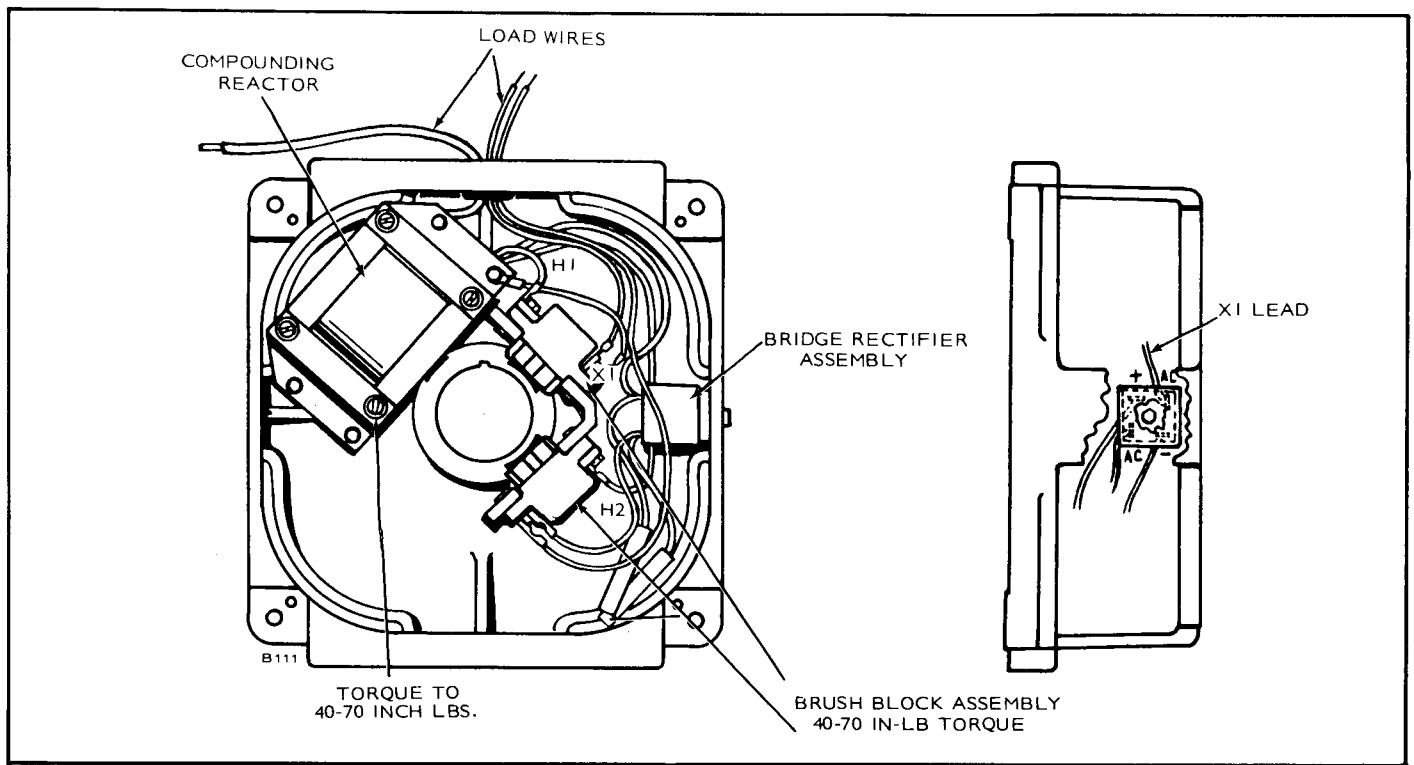
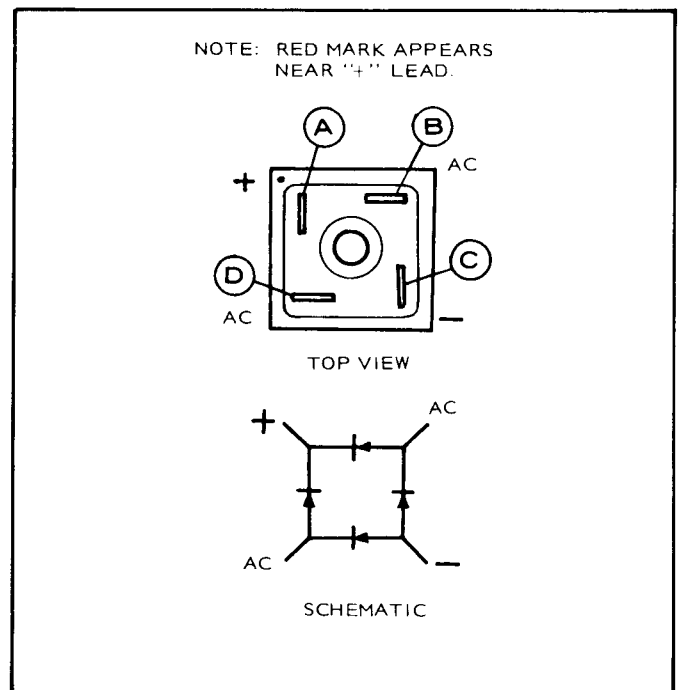

FIGURE 69. END BELL ASSEMBLY
FIGURE 70. TESTING BRIDGE RECTIFIER
1. Loosen No. 8-32 screw to remove bridge rectifier assembly (see Figure 69 for location).
**CAUTION** Note that connector can only be mounted in the end bell one direction, but the bridge rectifier can be mounted in (4) four directions of which only one will work.
5. Now place meter leads on points shown in Figure 70 and note readings from Table below.